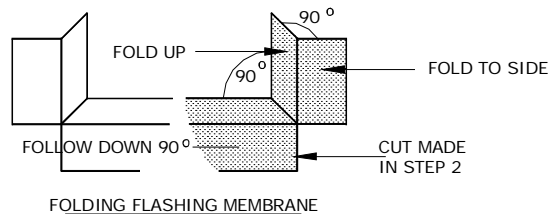

Fig 11.3
- Fold self-adhering flashing to fit rough opening sill (Fig. 11.3).